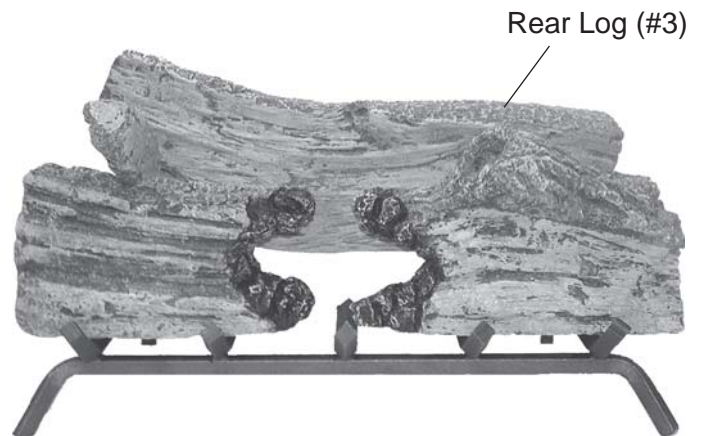

Figure 105 - Installing Rear Log #3
5. Fit cutout in the bottom left of Rear Log #3 over the back end of Log #2. Rest right end of Log #3 on rear grate bar. *See Figure 105.*